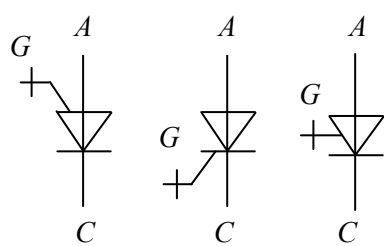

Fig. 1.54
**Gate turn-off thyristor.** Besides the power rectifier thyristors, a *gate turn-off thyristor* (GTO) is produced. This device has two adjustable operations, thus it is known as a *two-operation thyristor* switch. The GTO can be turned on by the positive current gate pulse, and turned off by the negative current gate pulse. The cross terminals in Fig. 1.54 show that the symbol belongs to the GTO thyristors.